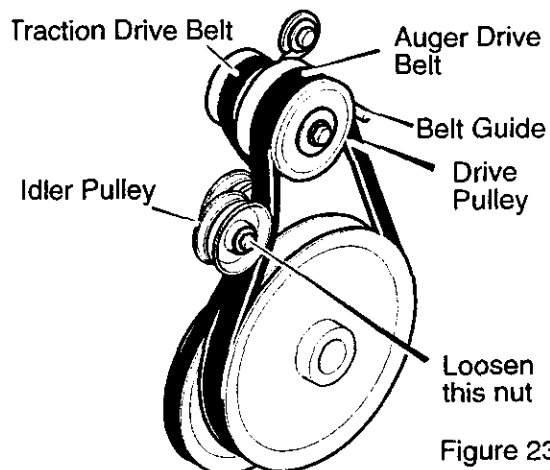

Figure 23
- Loosen the **nut** on the **idler pulley** and move the pulley toward the belt about $1/8$ ". See Figure 23.
- Loosen the **belt guide**. Pull the **belt guide** away from the **auger drive pulley**. See Figure 23.